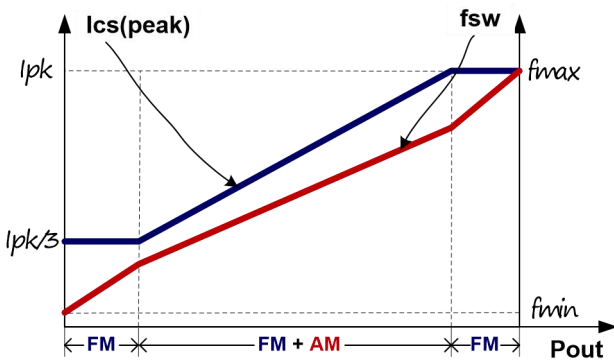

Fig.4
To meet the tight requirement of averaged system efficiency and no load power consumption, a hybrid of frequency modulation (FM) and amplitude modulation (AM) is adopted in CX7501 which is shown in the Fig 4.